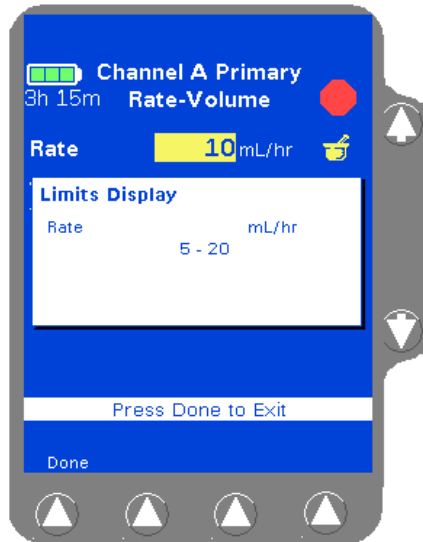

Figure 4-36 COLLEAGUE GUARDIAN Limits Display Pop-up
4. (Optional) To view a pop-up window (Figure 4-36) showing the limits programmed for the label, highlight the **Rate** field, then press the **View Limits** soft key. Press the **Done** soft key to close the pop-up and continue.